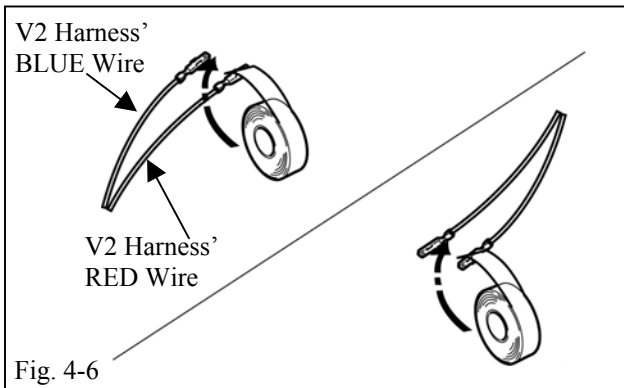

Fig. 4-6
- (g) Locate the V2 harness' BLUE and RED wires. Separately wrap the terminal at the end of each wire with electrical tape. (Fig. 4-6)